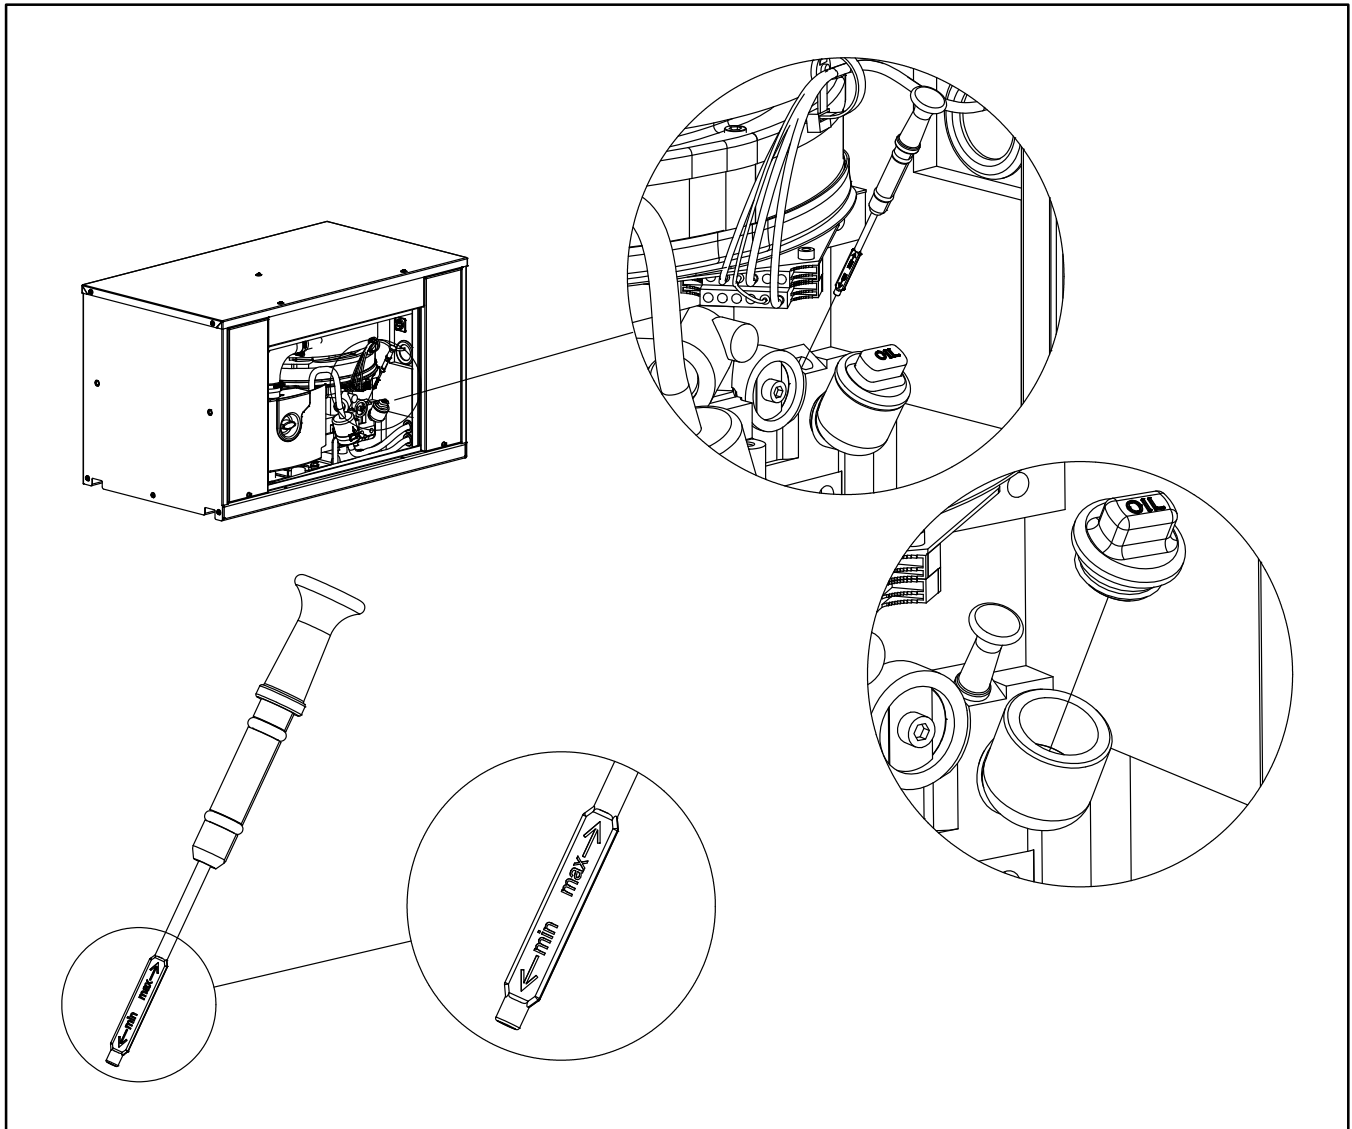

FIGURE 3-1. CHECKING ENGINE OIL LEVEL
Check engine oil level (Figure 3-1).
2. Pull out the oil dip stick, wipe it clean, reinsert it and pull it out again to check the oil level (Figure 3-1).
3. Refill with approximately 0.7 quarts of oil, check oil level (Figure 3-1) and secure the front access door.